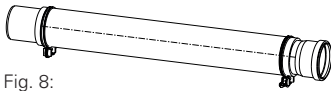

Fig. 8:
- The exhaust hose (socket/pipe) Fig. 8 is used to route the exhaust air from the suction system to the installed piping. The exhaust hose can additionally be used as an extension or flexible intermediate piece in the suction or exhaust air line. Item number: 752/3481